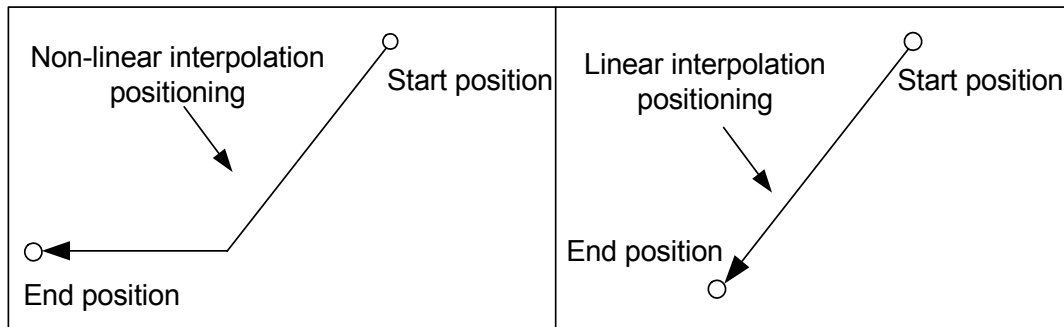

Fig. 3-2-1-1
**Function:** G00 command. The tool moves to the position in the workpiece system specified with the absolute or an incremental command at a rapid traverse speed. The bit parameter **NO:14#0**. sets to select one of the following two tool paths (Fig. 3-2-1-1).